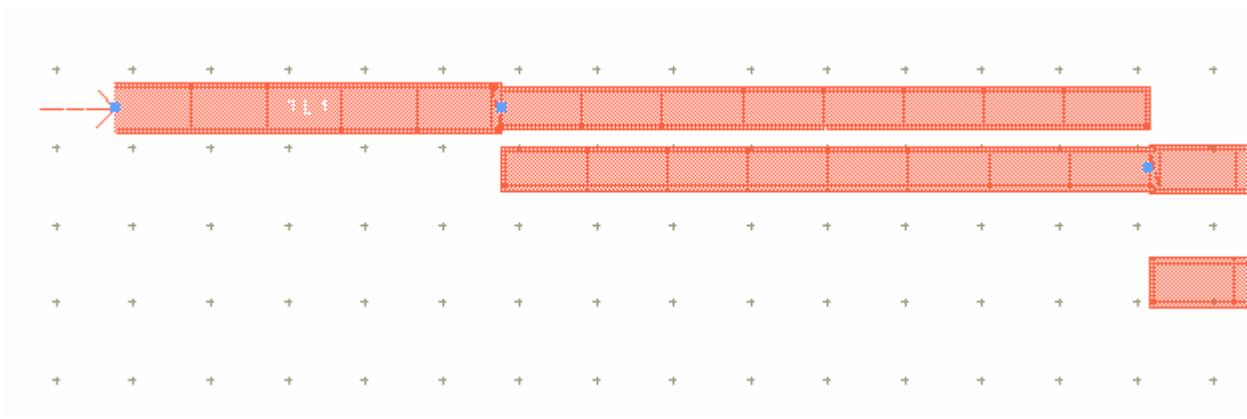

Figure 11. Layout of microstrip filter showing the Momentum mesh.
- i) Select Momentum>Mesh>Precompute mesh. The generated mesh should resemble that shown in Figure 11.